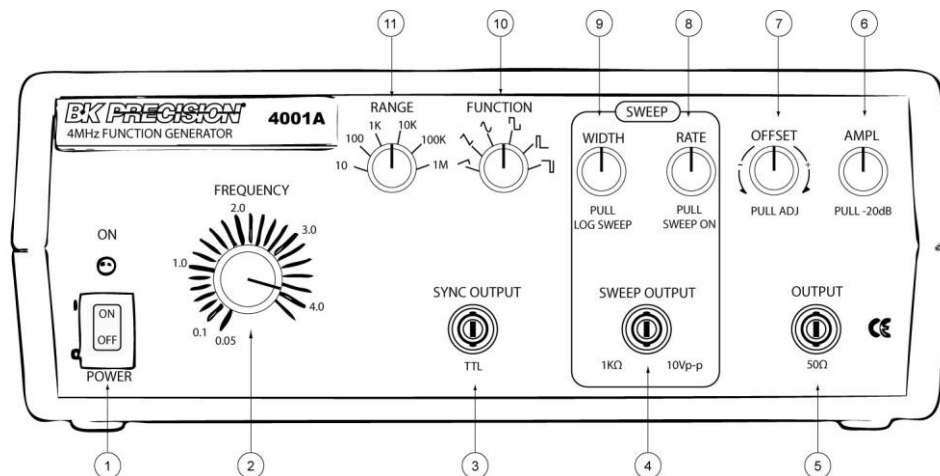

Figure 1 – Front Panel Controls (4001A)
4.1 FRONT PANEL (Refer to Figure 1 & Figure 2)